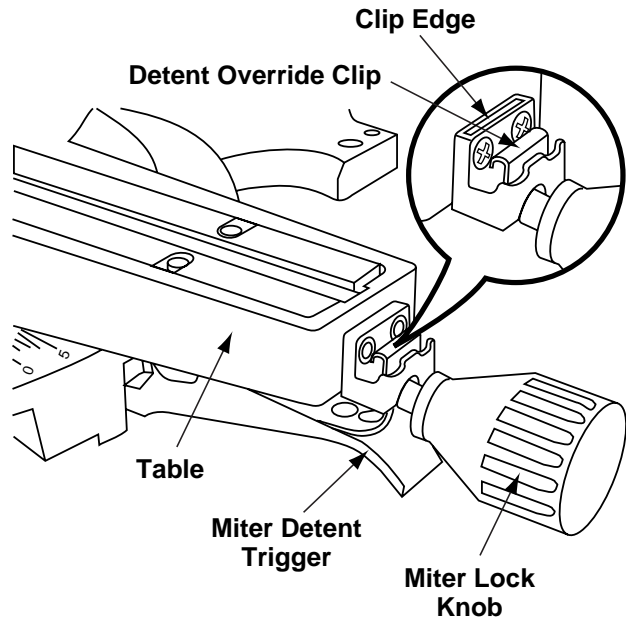

Figure 25. Detent Override
2. Push the detent override clip forward and latch in place over edge. Release miter detent trigger (Figure 25).